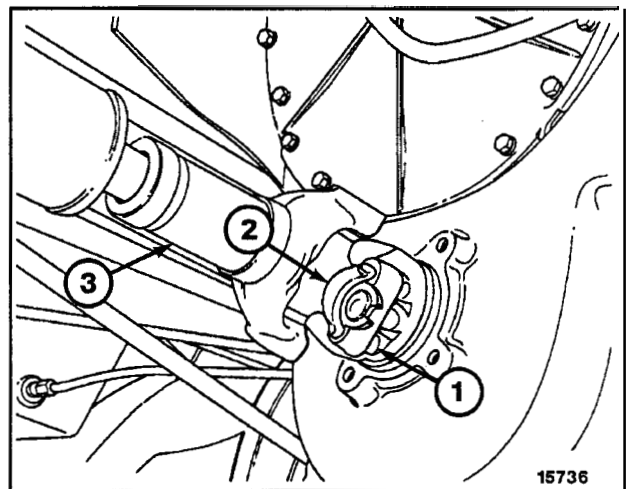

Figure 33
7. Remove four nuts and lock washers (1, Figure 33), two U-bolts (2) and drive shaft (3) from front output flange of transmission.